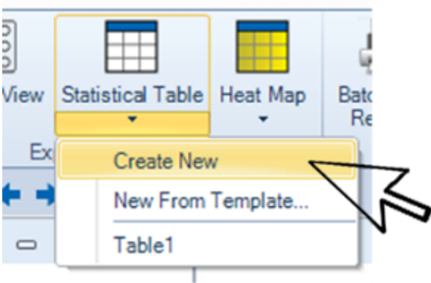

Figure 15: Creation of a data table (statistical table).
- Look for the option to create a "Statistical Table" (refer to Fig. 15).